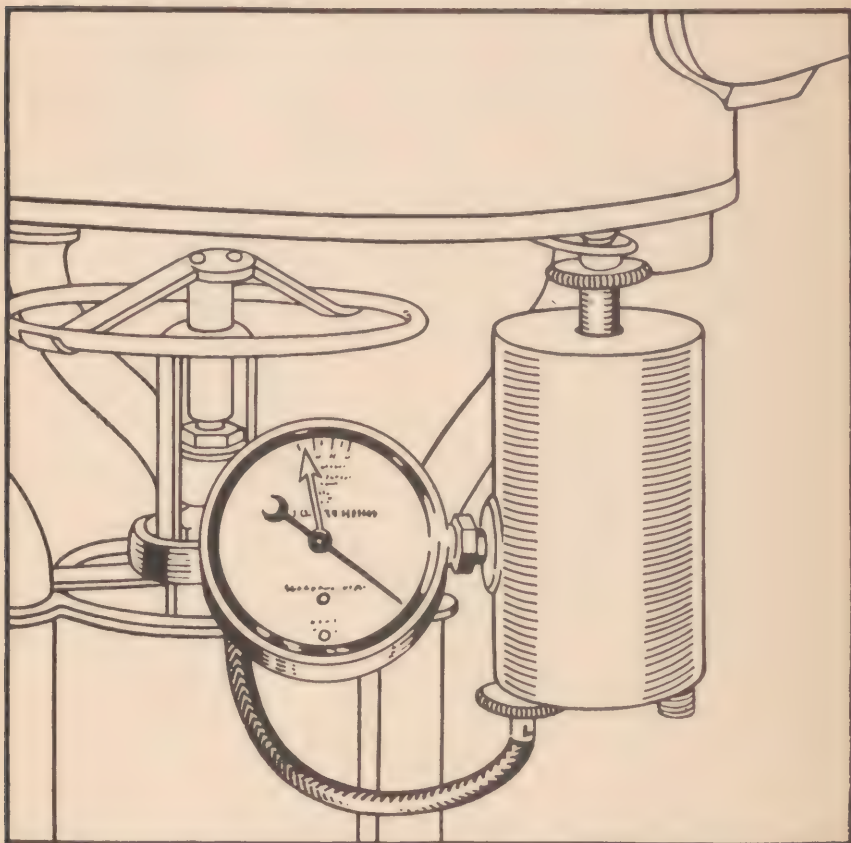

Figure 7. Pressure gauge and measuring chamber connection.
(4) *To connect pressure gauge and measuring chamber.* (a) Insert the nipple at the top of the measuring chamber into the oxygen inlet on the bottom of the apparatus. (See fig. 7.)